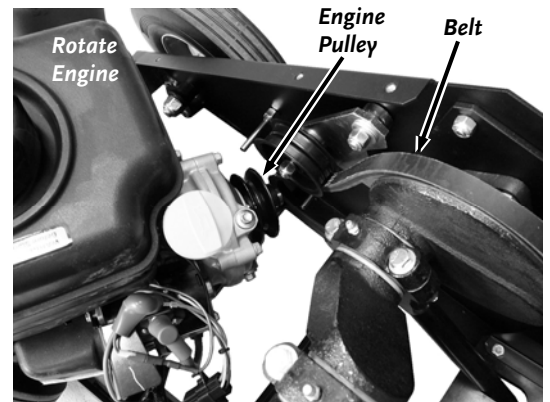

Figure 21
5. If you have a manual start machine the Engine can be removed from the Frame. For Electric start machines rotate the Engine with the Wire Harness attached enough so the Belt can be removed from the Pulley (**Figure 21**).